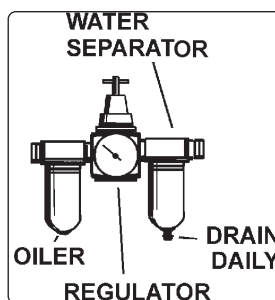

fig.1
- 4.3. Keep the air hose between the compressor and the air jack as short as possible, and install an air filter and oiler, see fig.1.